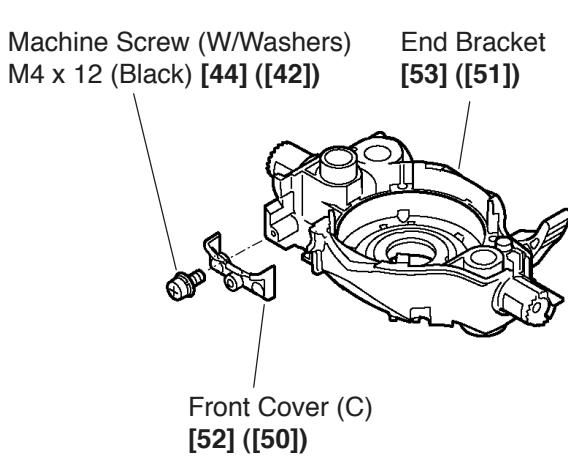
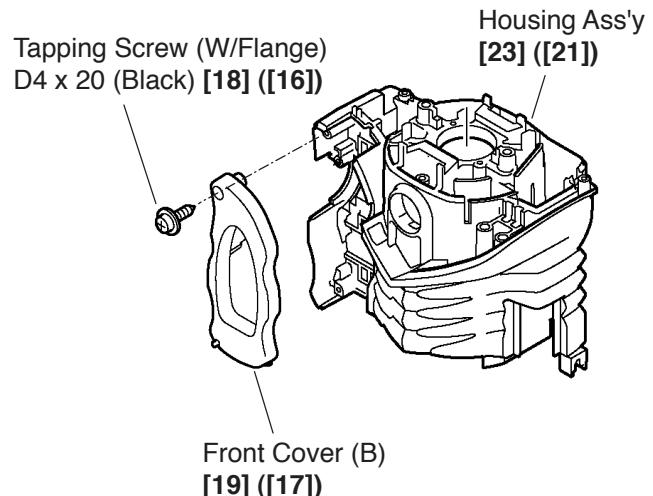

Fig. 11
Fig. 12
(4) Remove Front Cover (B) [19] ([17]) and Front Cover (C) [52] ([50]) (Fig. 11 and Fig. 12)
- (a) Loosen and remove the two Machine Screws (W/Washers) M4 x 12 (Black) [44] ([42]), and remove Front Cover (C) [52] ([50]).
- (b) Loosen and remove the Tapping Screw (W/Flange) D4 x 20 (Black) [18] ([16]), and remove Front Cover (B) [19] ([17]).